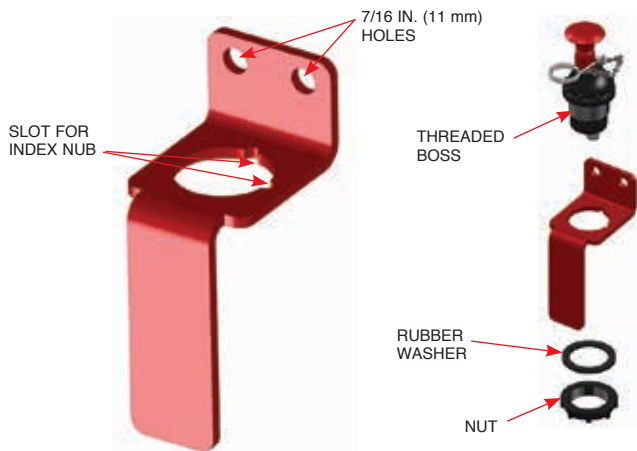

FIGURE 5-23
- a. **Bolting:** Using bracket base as a template (see Figure 5-23), mark and drill 7/16 in. (11 mm) holes in flat surface (2 places). Secure bracket with 3/8 in. (9 mm) corrosion resistant bolts of the appropriate length with lock washers and nuts.